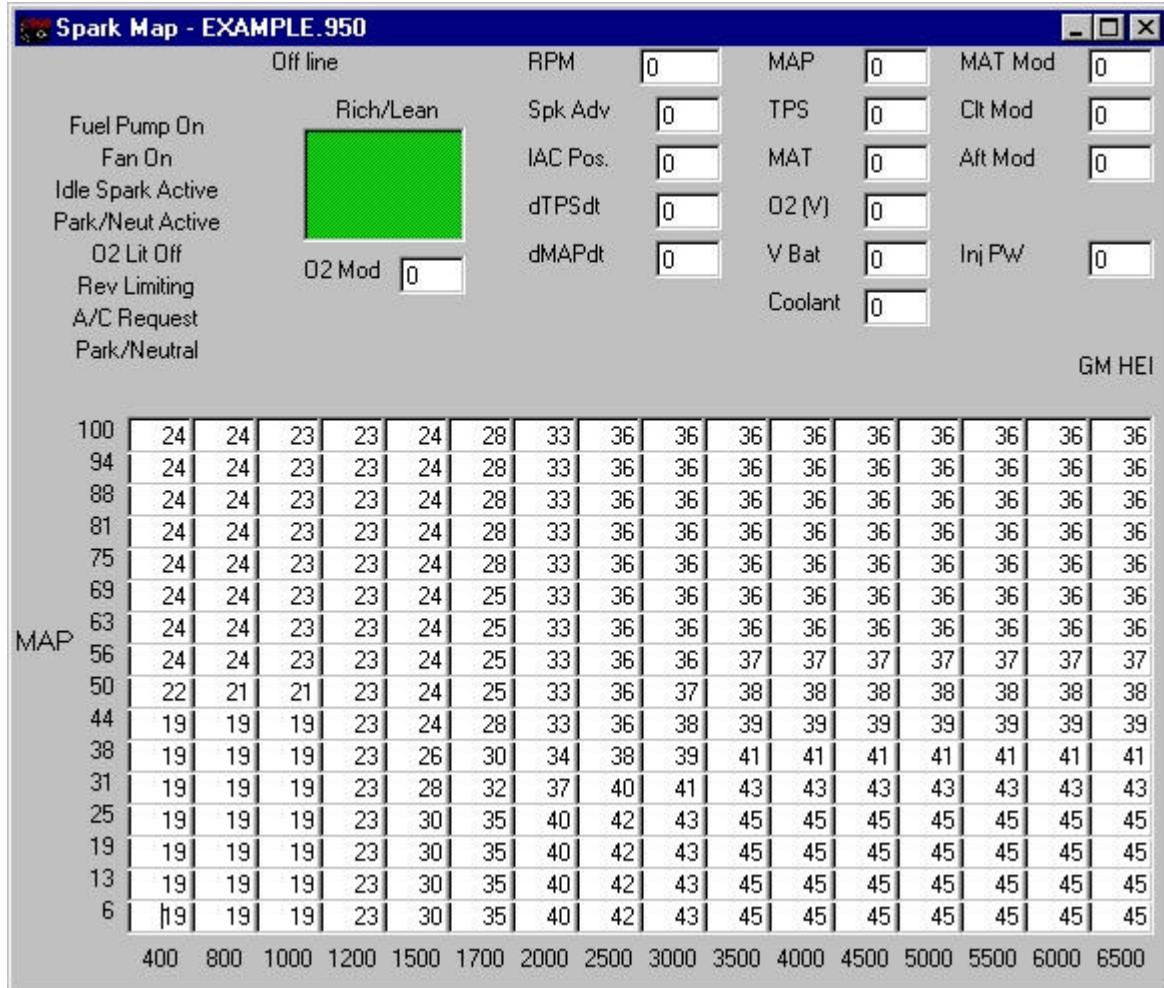
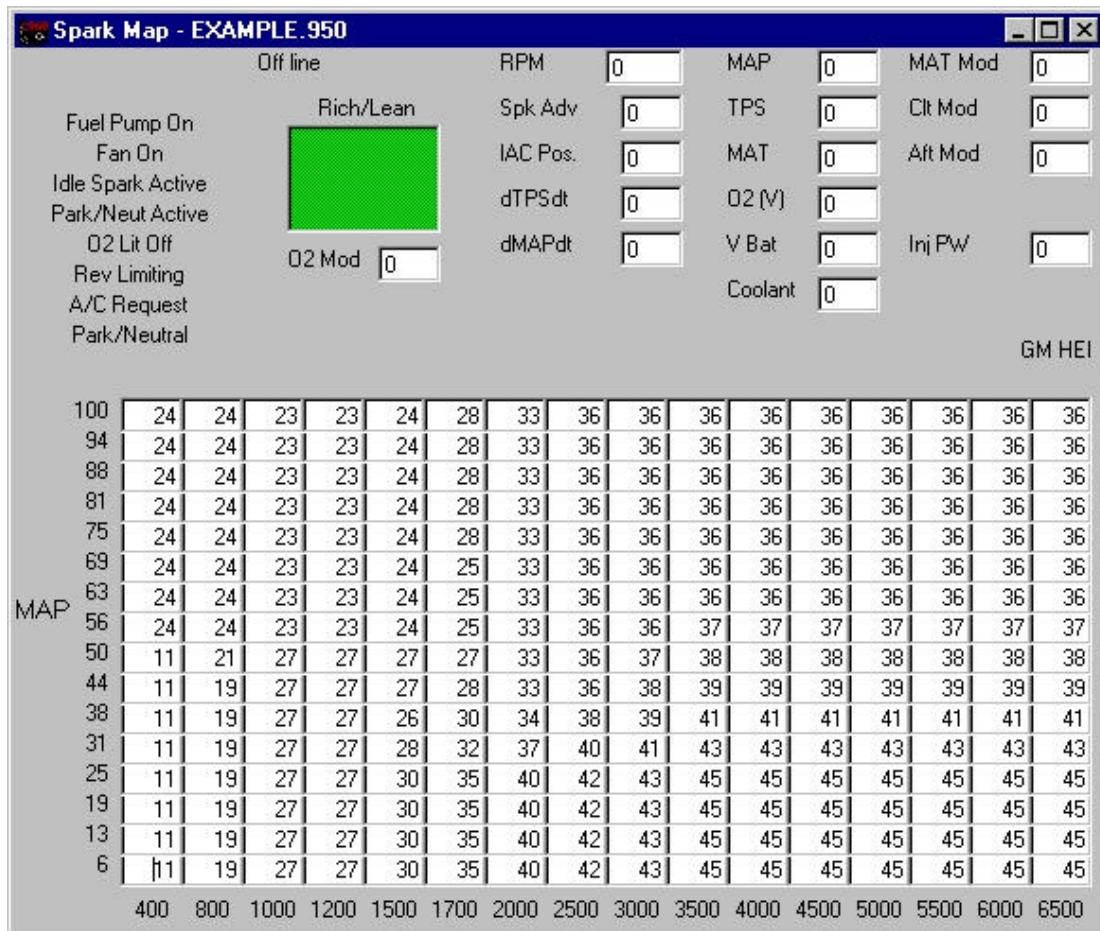

Figure 23 Spark Map
Figure 24 Poor Spark Map at Idle
- B. The next thing that greatly contributes to a smooth idle is having a fuel and spark map that is smooth in the area that the engine idles. Note the map (**Figure 23**) above, the timing at idle is not flat. This causes the timing to fluctuate and will make the engine surge. The spark map (**Figure 24**) below shows poor mapping at idle. If the engine was to idle at 850 rpm at 44 kPa, the timing could be jumping between 11, 19, and 27 between the speeds of 400 to 1000 rpm. The area at which an engine idles should have a relatively flat timing area. It is fine to add advance as the rpm increases, but when an engine is idling, the timing should not vary due to the map.